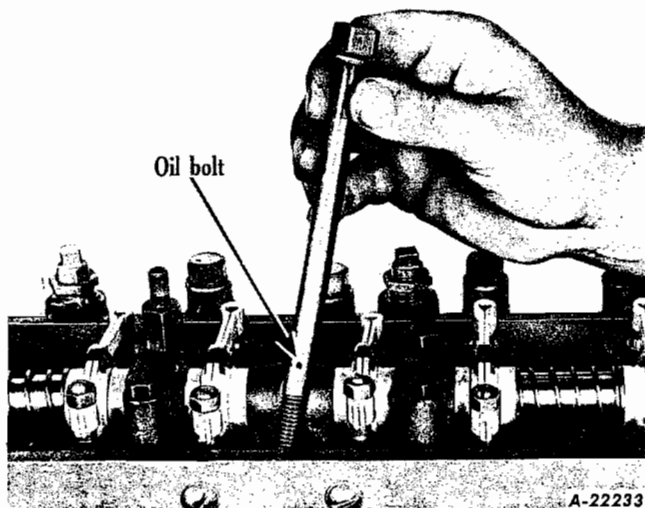

Fig. 2
- Remove nuts, capscrews and oil bolts from shaft brackets. NOTE: Third bolt from the rear on the left side of the cylinder head supplies oil to rocker arms (Fig. 2).